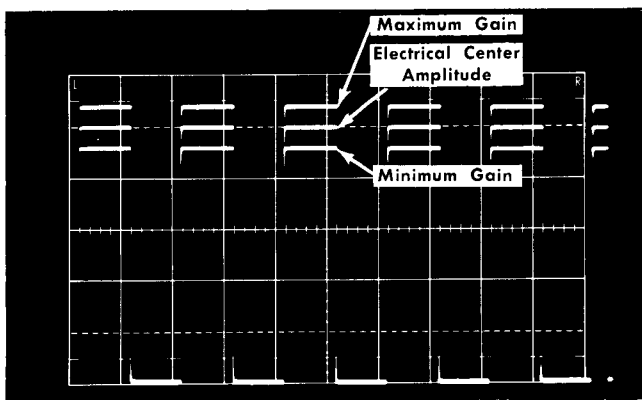

Fig. 7-16. Triple exposure of waveforms showing how to set the GAIN adjustment to electrical center. Sweep rate: 0.5 ms/cm.
Using Fig. 7-16 as an example:
h. ADJUST—GAIN control (R379) so the CRT display amplitude is the same as calculated in step 9g. This is the electrical center of the control. As a guide, Fig. 7-16 shows a triple exposure of the waveform displays similar to those that could be obtained when performing steps 9d, 9e and 9h.